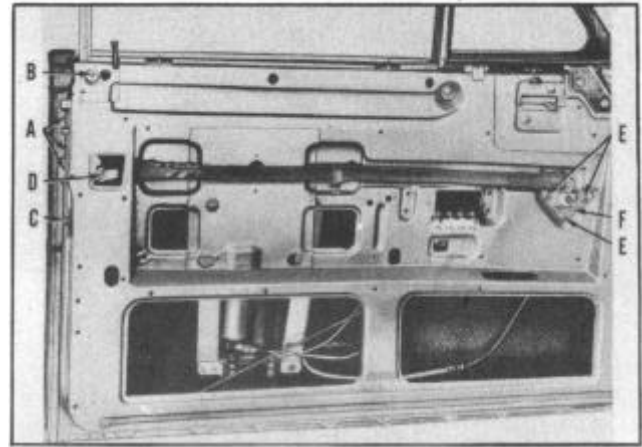

FIGURE 132
2. Remove three screws (E), Figure 132, from triangular bracket (F) at the handle end of remote control arm.
3. Remove anti-rattle spring (D) and pin from lock end of remote control arm and remove remote control.
4. Raise window and remove window guide channel screws (B and C), Figure 132, and remove channel by pulling channel down.
5. Remove three large Phillips head screws (A) attaching lock to edge of door.
6. Remove remote control anti-rattle spring (C) and pin connecting remote control arm to lock.